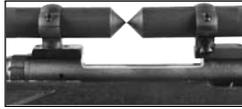

Figure 4
- h. Repeat until alignment bars match. (Figure 4)